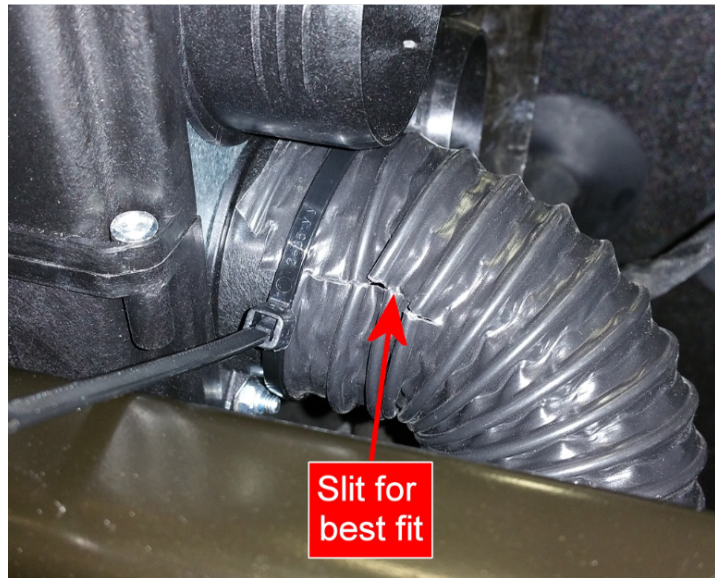

FIGURE 11
28. Use a wire cutter to slit the first three metal ribs of each 2" duct hose. This will allow for easiest installation over the 2" vents and the 55mm heater ports. **FIGURE 11**